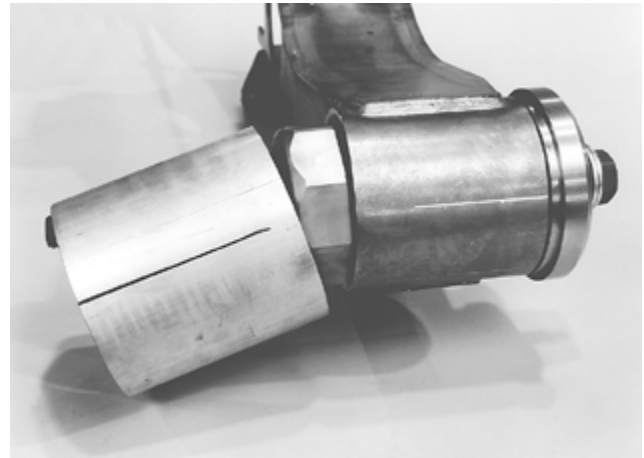

Figure 42: Continue to tighten hex head bolt after transition tube falls away
13. Continue to tighten until the hex head bolt almost stops turning. The transition tube will fall away before the bushing is fully seated in the bushing tube and the hex head bolt stops turning (Figure 42).